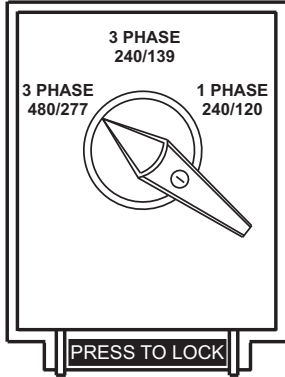

Figure 24. Voltage Selector Switch (3-Phase 480/277-Volt Position)
1. Place the **Voltage Selector switch** in the **3-phase 480/277-volt position** as shown in Figure 24.